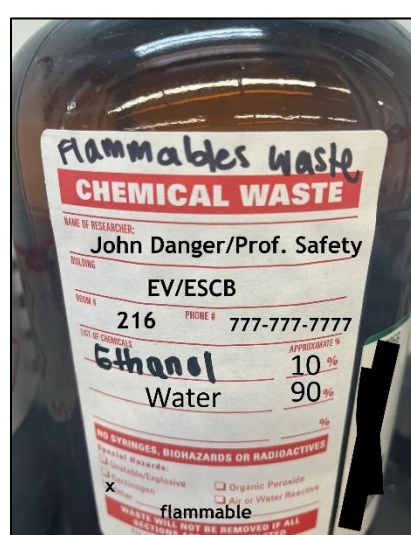

Figure 3
14. Label each chemical with the approximate percentages **before** transporting the 'full' waste containers to ChmStores for disposal (Figure 3).